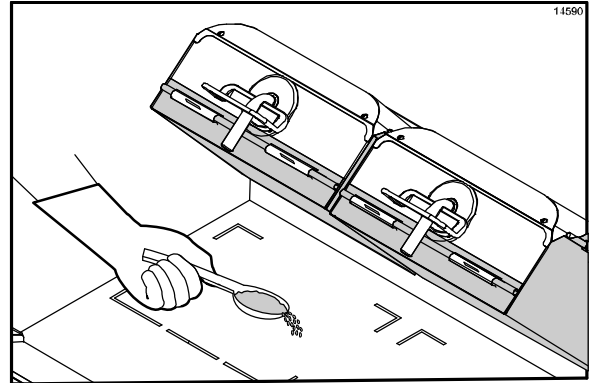

Figure 17
5. Using a sundae spoon, distribute two level spoonfuls of soy adherence flakes over a warm 3 ft. (1 m.) grill surface, allowing the flakes to melt. (See Figure 17.)